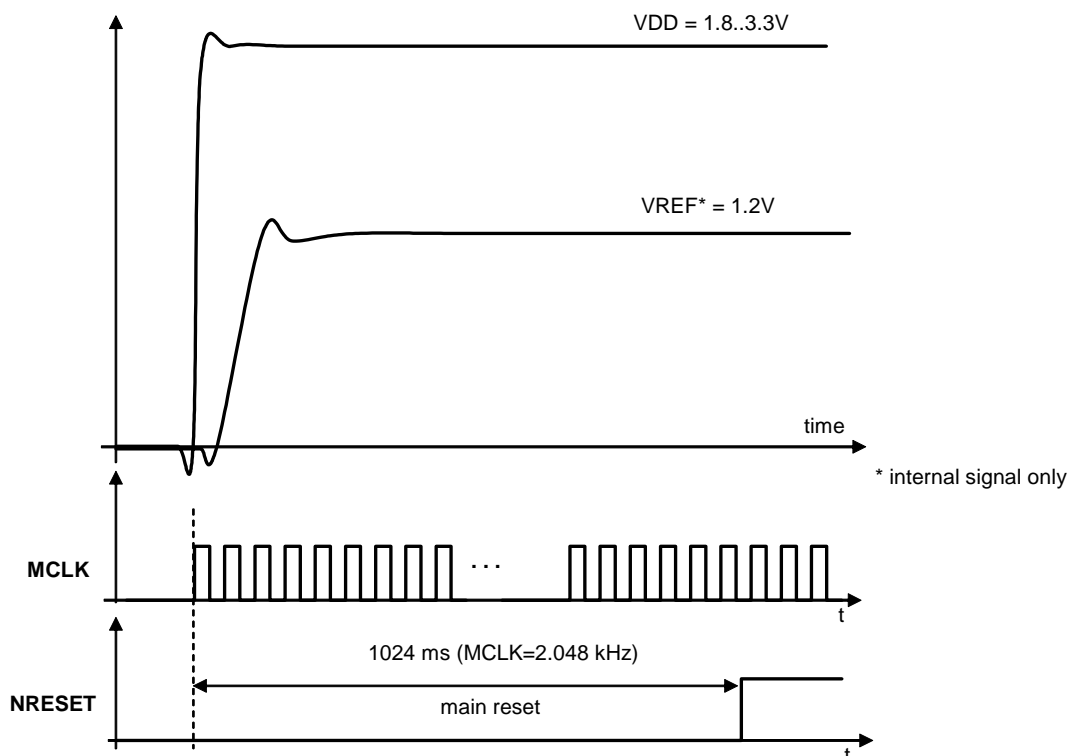

Figure 5: Startup sequence and NRESET signal after power-on.
The NRESET signal generated by the DAC is used to initialize the various blocks in the device and guarantees a correct start-up of the circuit. The start-up sequence that is automatically carried out upon power-up of the device is listed below and illustrated in Figure 5.
- 1) NRESET is low (0V) when the device is not powered and remains low for a short time when VDD (upper curve in Figure 5) is applied. The low state sustains while VDD, VREF are stabilizing. VREF is an internal signal only.